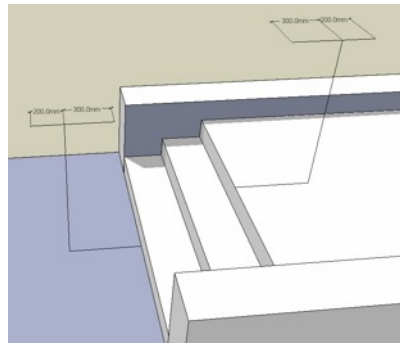

Figure 71. The horizontal 200mm and 300mm lines in position
- At the top of each of the 1000mm lines draw 200mm and 300mm lines as shown in Figure 71 ensuring that they are drawn in the green direction.